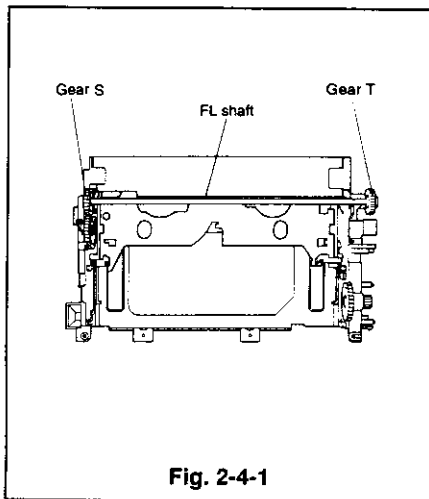

Fig. 2-4-1
**Note:** Install the takeup arm so that the engaging point between the supply arm and gear-S, and that between the takeup arm and gear-T are symmetrical as shown in Fig. 2-4-1.